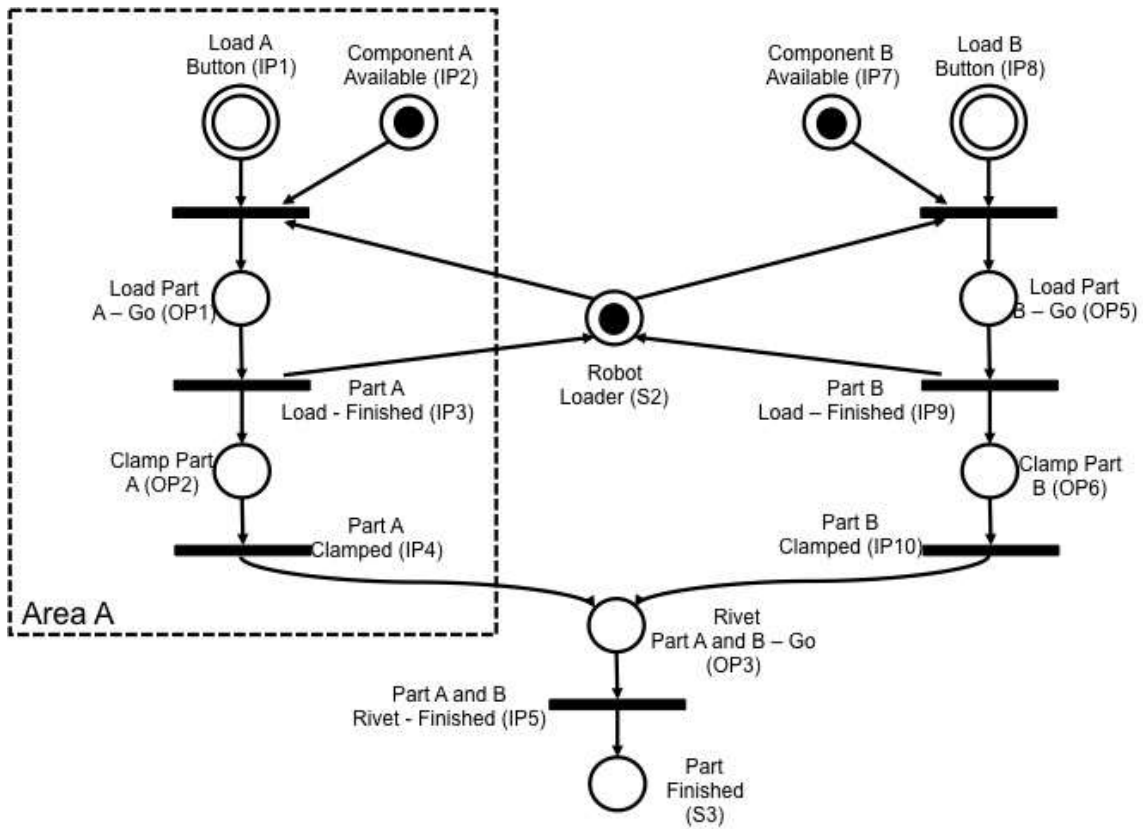

Fig. 3
4 An aircraft manufacturing plant has a semi-automated riveting machine. The machine clamps two aluminium components A and B into position and then rivets the components together. The machine is fitted with a simple robot loader for loading the components. The loading sequence for Components A and B can be specified by an operator. The unload operation is carried out manually after the riveting operation is complete. The control system for the machine is being updated with a Programmable Logic Controller (PLC). The Petri Net for the machine control is given in Fig. 3.
- (iii) The Robot Loader is also to be used to unload the riveted part once completed. Show how you would amend the Petri Net in Fig. 3 to allow for this. [10%]